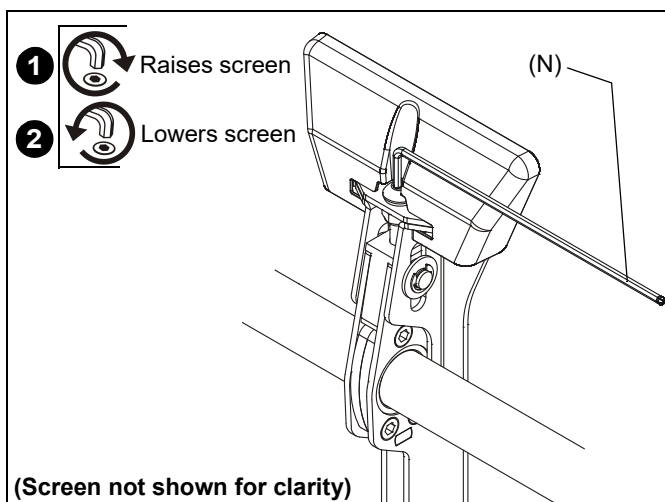

Figure 21
1. Turn to right (tighten) to raise side of screen. (See Figure 21)